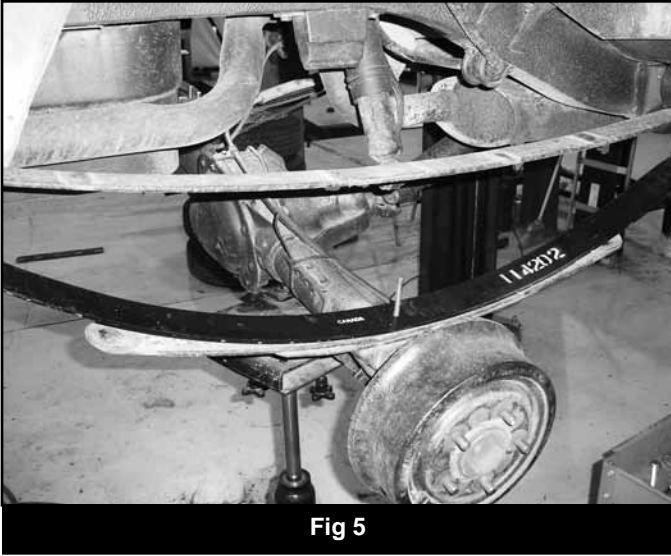

Fig 5
34. Place the provided new leaf (114202R) in between the 2nd and 3rd leaf in the factory leaf pack. The leaf lengths get shorter as they go from the top leaf in a pyramid shape (Figure 5). Using the C-clamps on each side of the center pin hole, compress the leaves together while aligning the new center pin through all of leaf center pin holes (from the bottom up). With the pack completely compressed together with the clamps, fasten the center pin with the provided nut. Torque nut to 20 ft-lbs. Cut off any excess center pin. Do not use the center pin to compress the pack together.